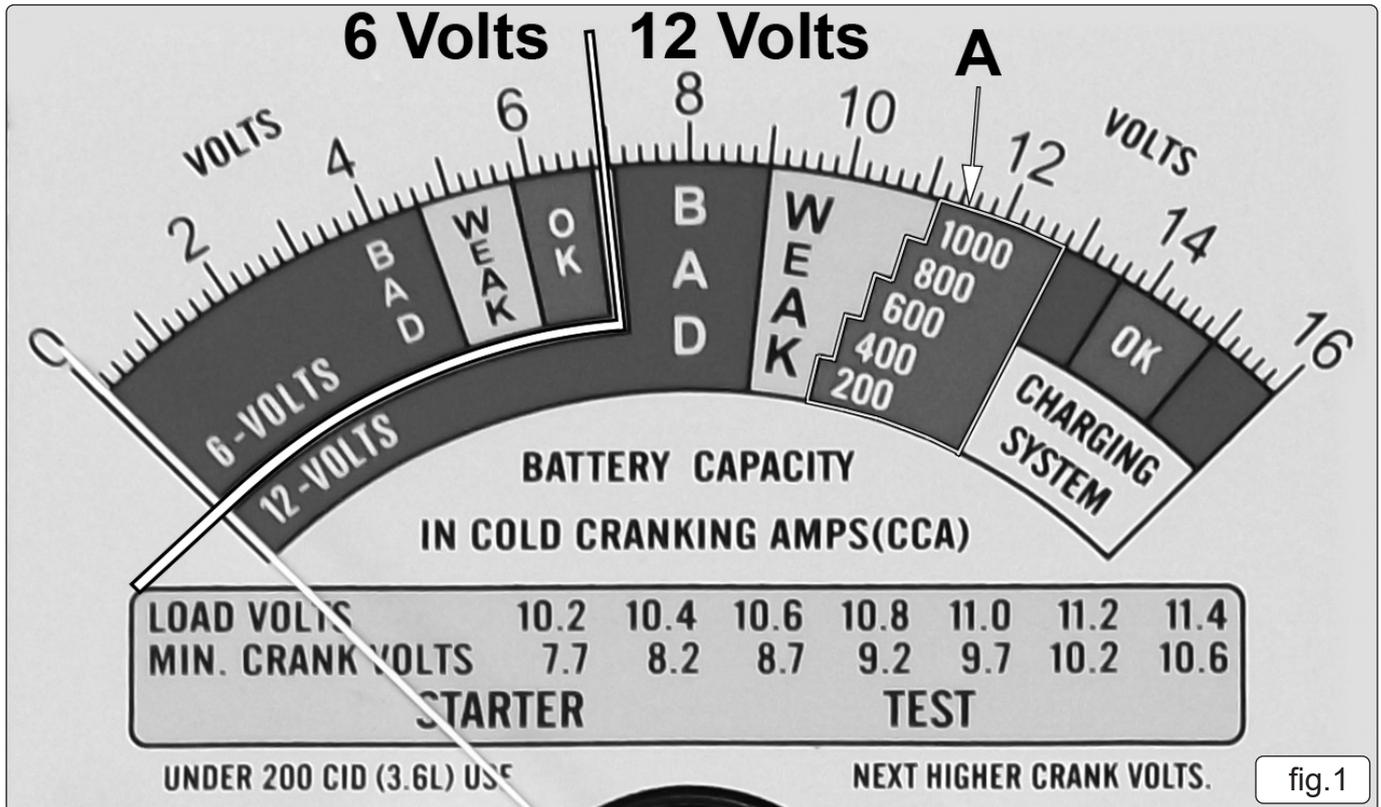

fig.1
Load Test Result Fig.1	Battery Condition
- 3.6.2. Run engine at 1200 to 1500rpm and note meter reading, which should be in the green 'OK' 12 Volt sector (fig.1). **DO NOT** press the load switch.
- 3.6.4. A reading in the red sector above "CHARGING SYSTEM" (fig.1) indicates a fault in the charging system which will cause the battery to be under charged. A reading in the red sector to the right (fig.1) indicates a fault which will cause the battery to be over charged.
- 3.7.3. Use the table given below or fig.1 to determine the equivalent minimum cranking voltage. Note that for engines of less than 3.25 litres take the next higher figure. For example:-